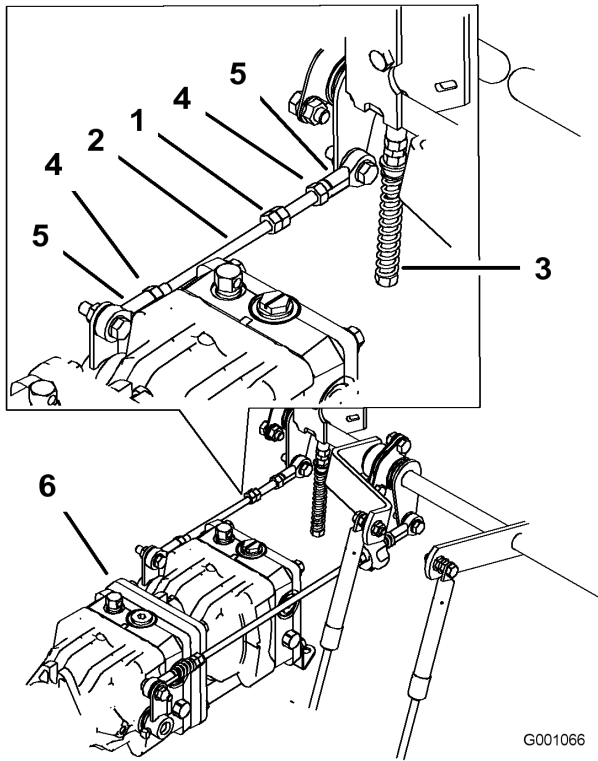

Figure 69
1. Loosen the locknuts at the ball joints on the pump control rod (Figure 69).
3. Adjust the pump rod length by rotating double nuts on rod, in the appropriate direction, until wheel is still or slightly creeps in reverse (Figure 69).
6. Tighten the locknuts at the ball joints (Figure 69).